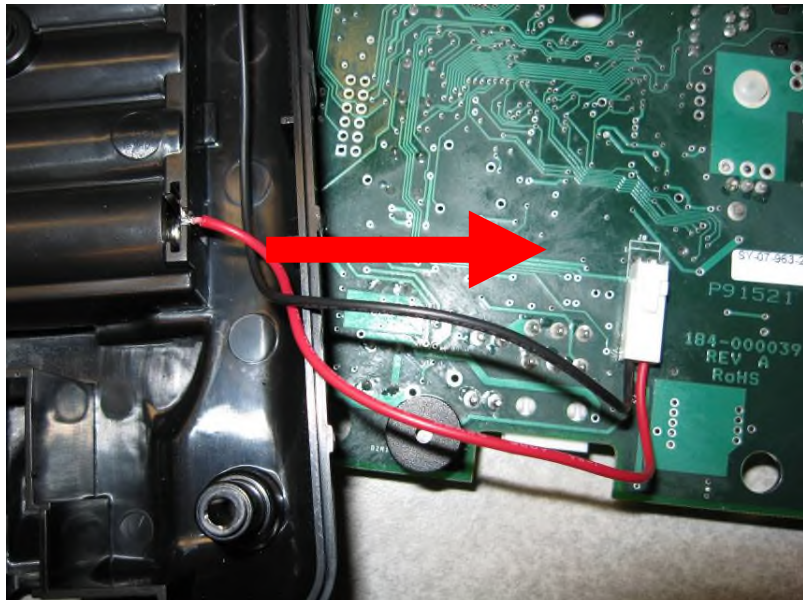

Figure 2
2. Connect PCB to internal batteries. (J8) See figure 2.